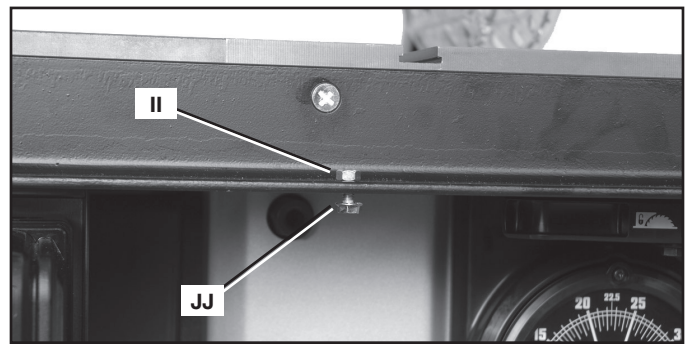
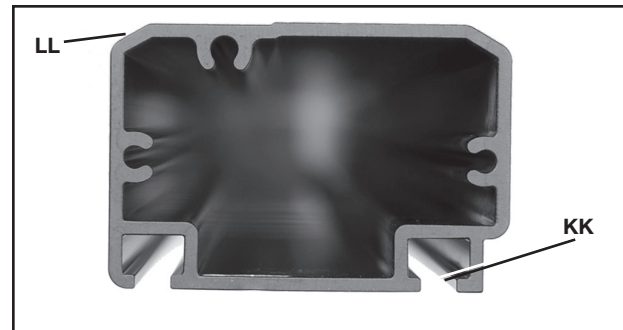
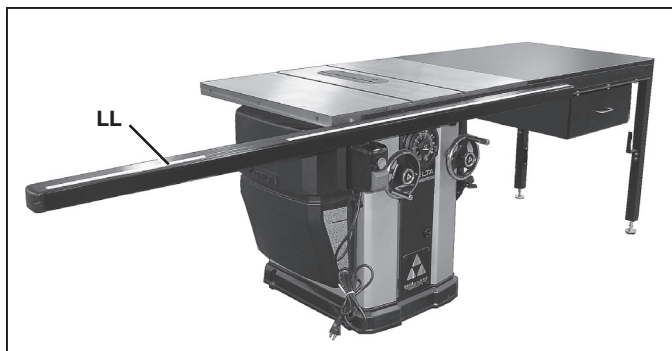
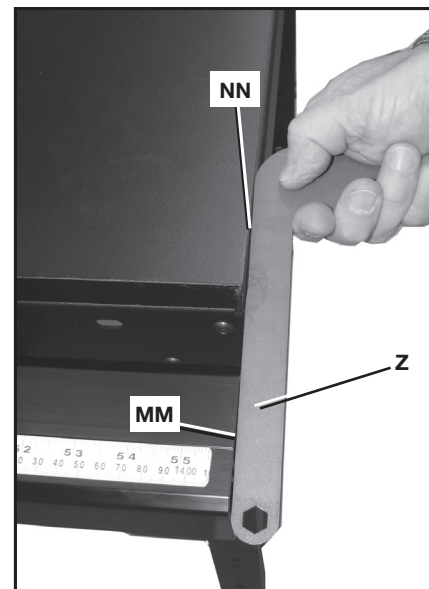

FIG. 15
FIG. 16B
FIG. 17
FIG. 18
1. Insert 1/4-20 x 5/8" (16 mm) hex head screw (II) down through a hole in front rail and thread on a 1/4-20 serrated flange nut (JJ) a few turns, as shown in Fig. 15.
4. Slide guide tube hole (KK) Fig. 16B onto first hex head screw at the left side (as shown in Fig. 17). Make sure ruler tape (LL) Fig. 16B or Fig. 17 is to the front of the saw before you start. Work your way down and slide guide tube around all hex head screws (II) Fig. 15 until metal edge (MM) Fig. 18 on right end of guide tube (NOT THE PLASTIC CAP) is flush with right end (NN) of extension table. Use the included template (Z) to be sure straight edge of guide is flush with wood part of table, as shown in Fig. 18
5. Fully tighten all flange nuts (JJ) Fig. 15, attaching guide tube to the rail.
**NOTE:** If the pointer can't be set to zero, loosen serrated nuts (JJ) Fig. 15 under the guide tube and adjust guide tube as needed. Re-tighten the nuts (JJ).